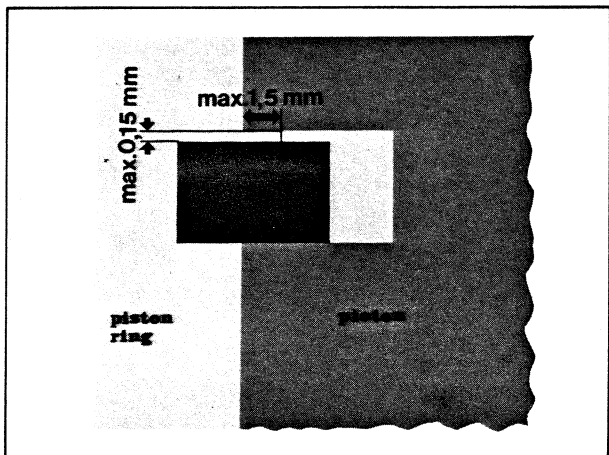

Fig. 8.3
A. When the play in the ring groove amounts to 0,15 mm to a depth of approx 1,5 mm, replace the piston. See fig. 8.3.